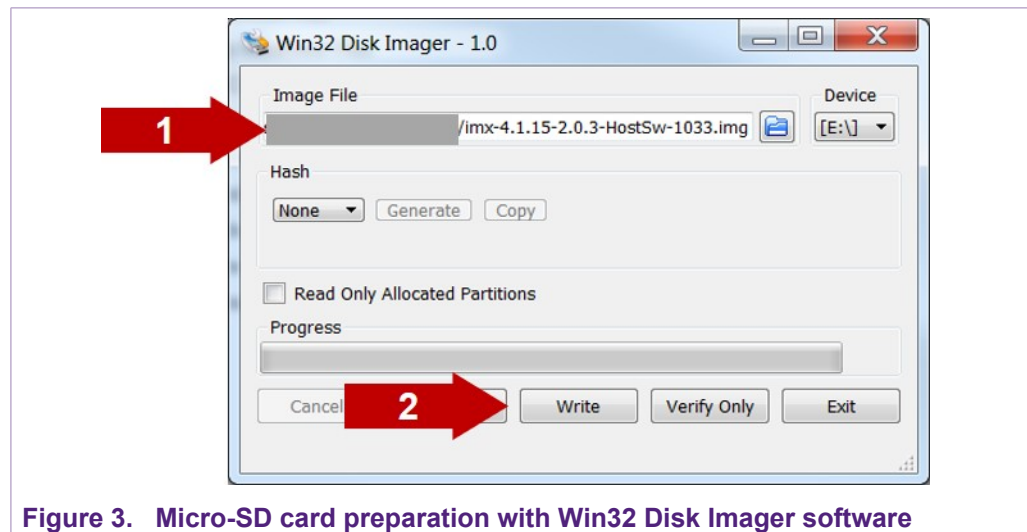

Figure 3. Micro-SD card preparation with Win32 Disk Imager software
4. Open Win 32 Disk Imager, (1) select from your file system the pre-compiled Linux image you downloaded from the website and (2) click the **Write** button as shown in Figure 3.